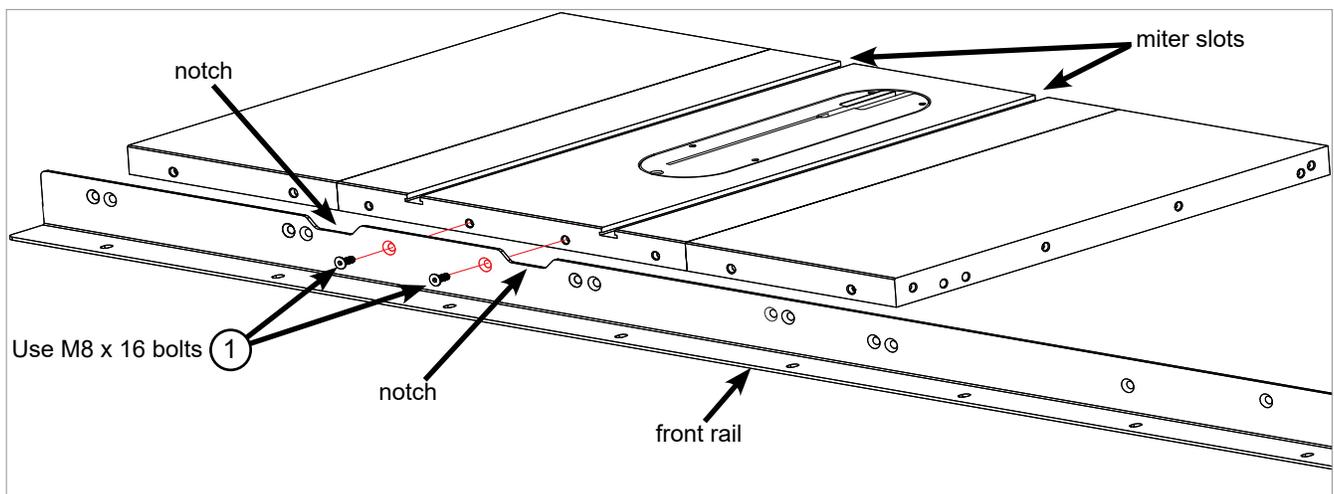

Fig. 1
1. Begin mounting the front rail (the longer of the two rails) to the front edge of your saw by centering the notches in the rail with the two miter slots in the table, aligning the two holes in the rail between the notches with the two corresponding holes in the front edge of the table, and threading an M8 x 16 countersunk socket head bolt into each hole (see Fig. 1). Aligning the two holes between the notches aligns all the other holes used in mounting the rail to your saw. Not all the holes are used to mount the rail to your saw; different holes are used for different saws. Thread the bolts into the corresponding holes, and tighten them using a 5 mm hex key.